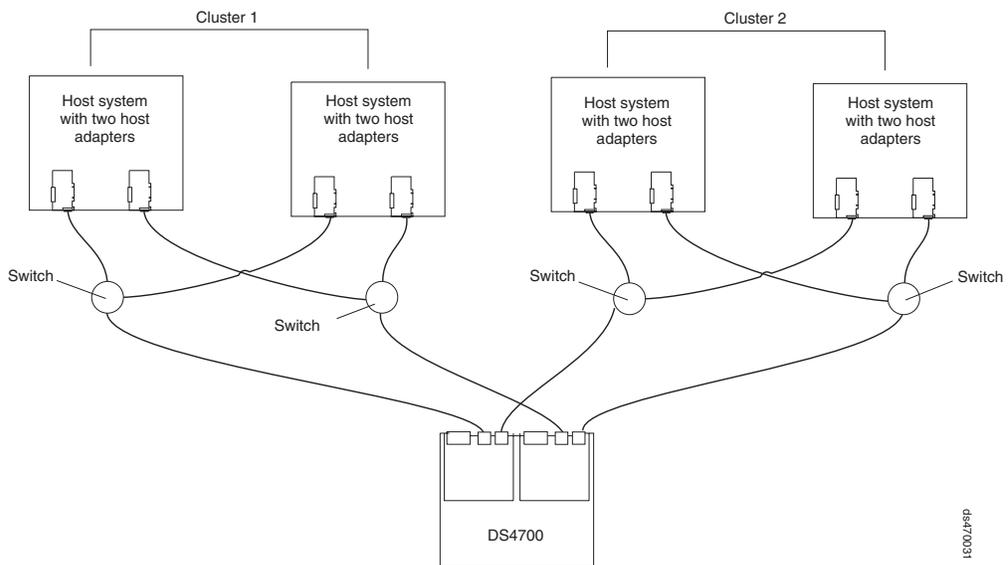

Figure 73. Example of a two-cluster configuration
- Two clusters, as shown in Figure 73 on page 86
Figure 73 shows an example of a two-cluster configuration.